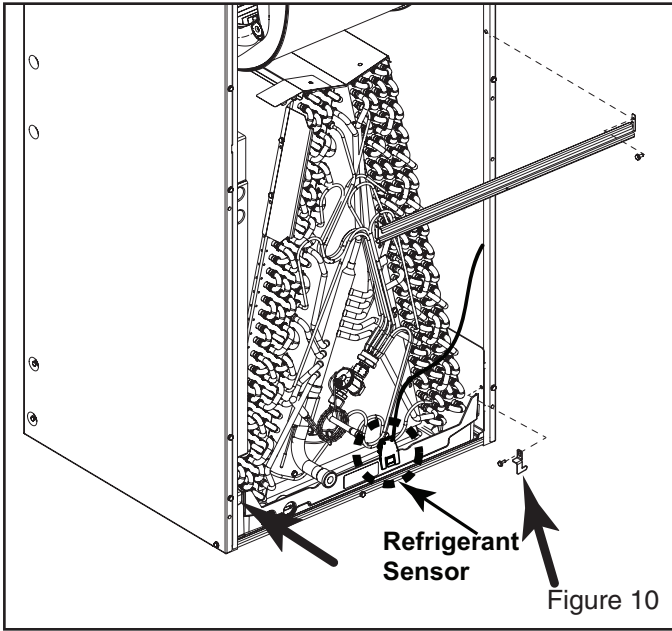

Figure 10
2. Reinstall coil retaining brackets and horizontal brace(s). See Figure 10.
3. If equipped, reinstall refrigerant sensor in same location as before and reconnect. See Figure 10.